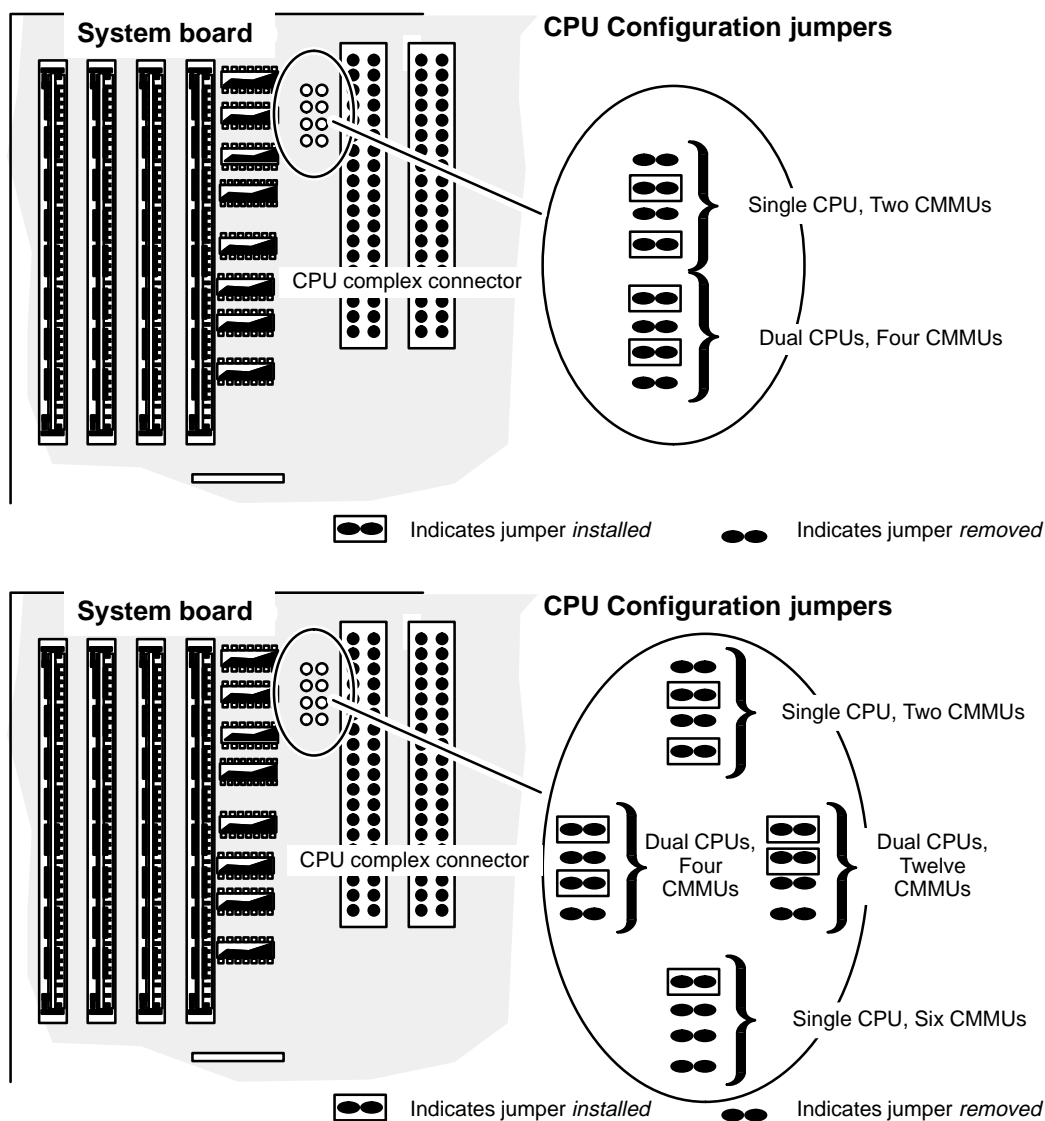

Figure 10-10 Specifying the CPU Configuration on the System Board
4. Verify that the CPU configuration jumpers are correct for your system. Figure 10-10 shows the location of these jumpers, and valid configurations. If necessary, move the jumpers on your replacement system board to reflect the correct number of processors and cache/memory modules in your system.